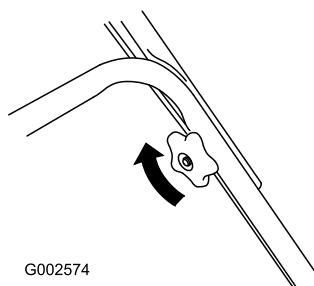

Figure 4
2. Tighten the handle knobs (Figure 4).